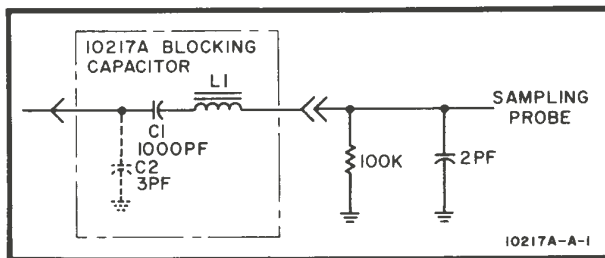

Figure 2. Model 10217A Blocking Capacitor Schematic
8. The schematic of the Model 10217A is shown in Figure 2. The blocking capacitor is a 0.001- $\mu$ F low-inductance capacitor which is used to keep dc potentials in the circuit under test from reaching the vertical amplifier. It is capable of blocking  $\pm 100$  volts dc from